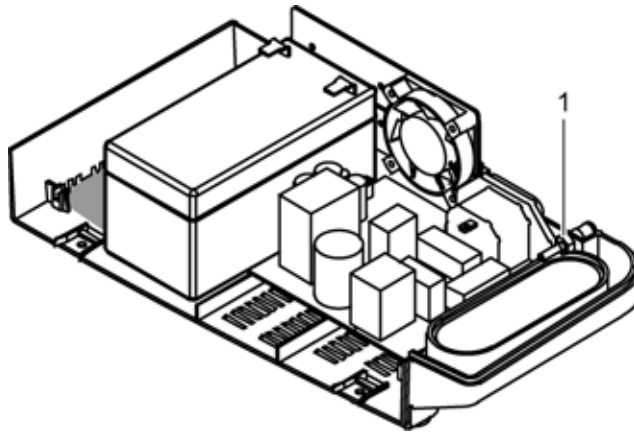

Figure 38: Equipotential Ground Terminal
4. Remove the remaining nut and washer from the equipotential ground terminal. See Figure 38.